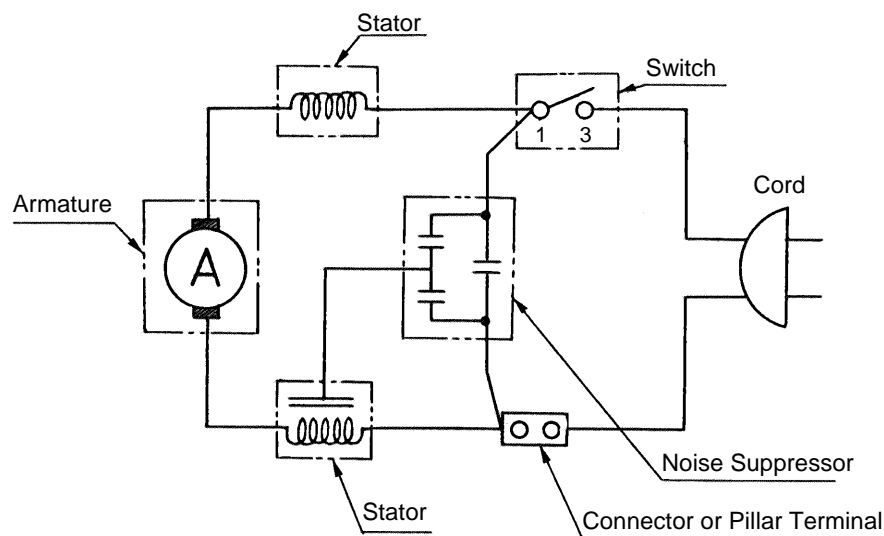

Fig. 9
On models equipped with a Noise Suppressor ⑤ (see Fig. 9), carefully confirm appropriate terminal numbers on the Single Pole Switch ⑬ when connecting wiring. On the No. 1 terminal side, connect the Internal Wire ⑳ (grey-colored, with terminal) from the Stator ㉒, and the Internal Wire (with terminal) from the Noise Suppressor ⑤. On the No.3 terminal side, connect the Internal Wire (with terminal) from the Cord ⑧. Ensure that the Internal Wires are properly attached, and that the terminal screws are firmly tightened. Then connect the other Internal Wires of the Stator ㉒, Noise Suppressor ⑤, and Cord ⑧ with the Connector ⑦ (or Pillar Terminal ⑥).